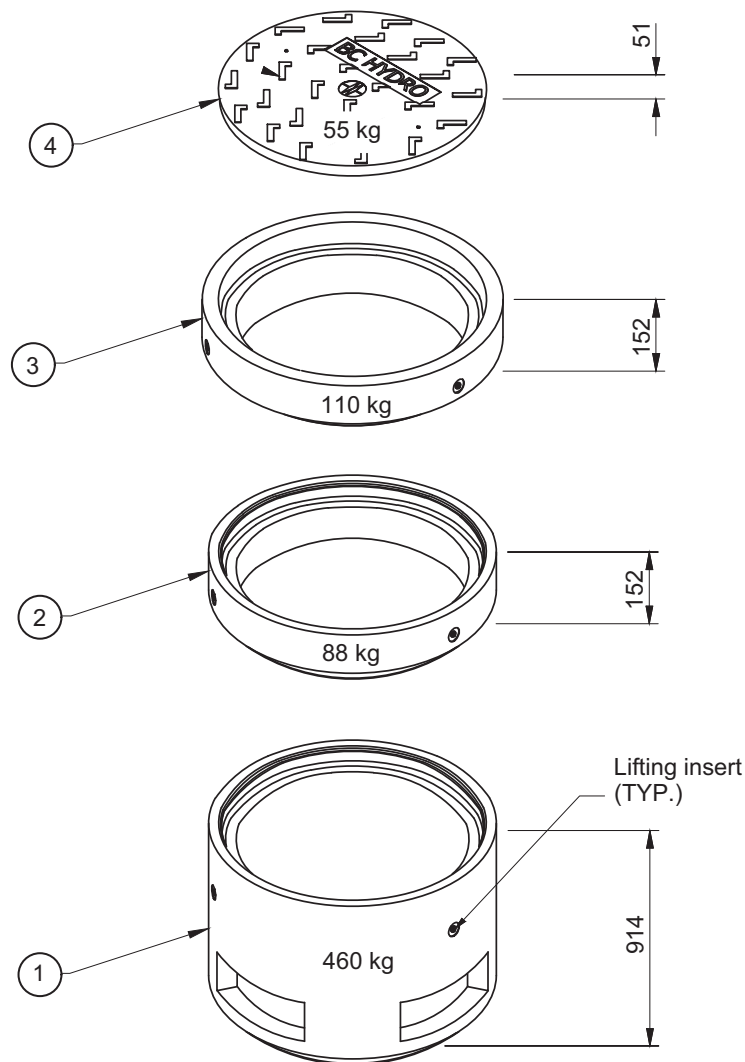

Figure 1 – Circular concrete service box
Updated item 1 description and material number in *Items Required* and removed extension unit (previous item 2). Updated note 4 to remove extension. Updated Figure 1 to show new higher service box base without extension. Updated number of service ducts allowed (removed 3 ducts max per window) in Figure 2. Substantive changed content is marked with green vertical revision lines in the left margin. This revision released concurrently with Standards and Equipment Advisory Information Bulletin 2025-002 *Revised ES54 Section B Pull and Splice, Service, and Junction Box Standards*.